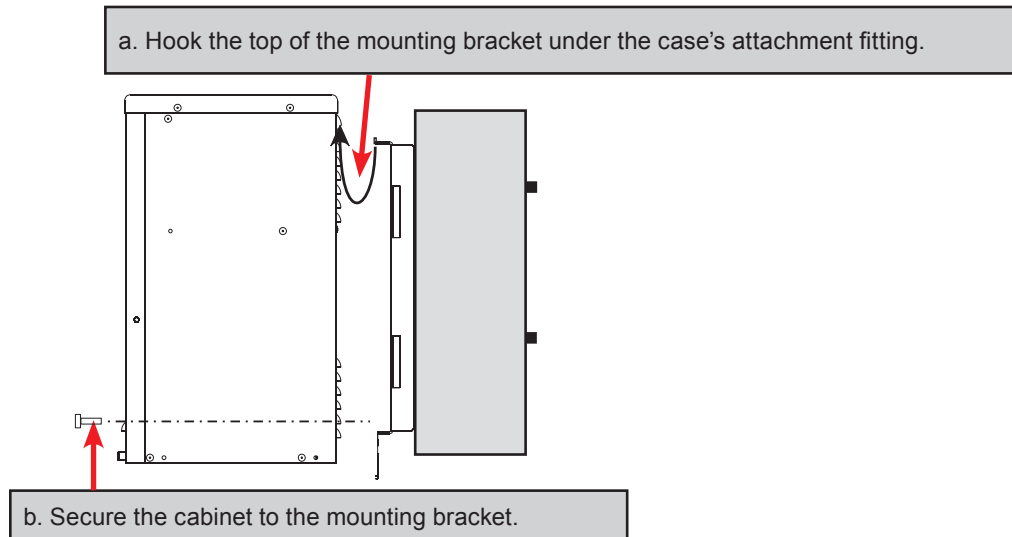

Figure 14 — Securing the enclosure to the mounting bracket
3. Secure the Micro350 cabinet to the mounting bracket with the supplied bolts (Figure 14).